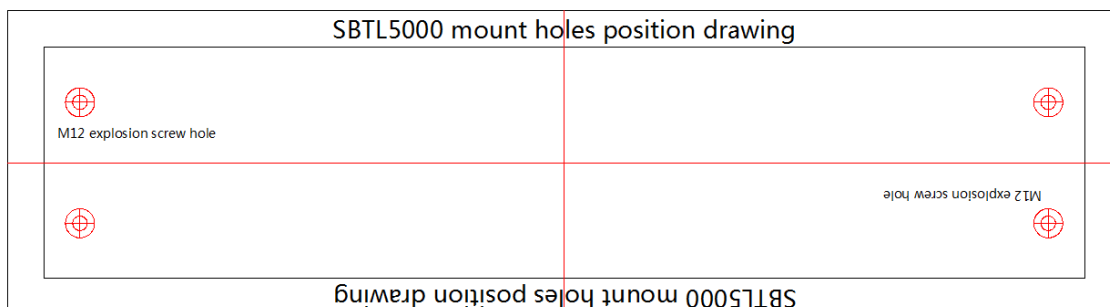

Figure 2-1
1. Drill holes based on the drawing of mount holes position, as shown in Figure 2-1. Then set the expansion screw into holes.